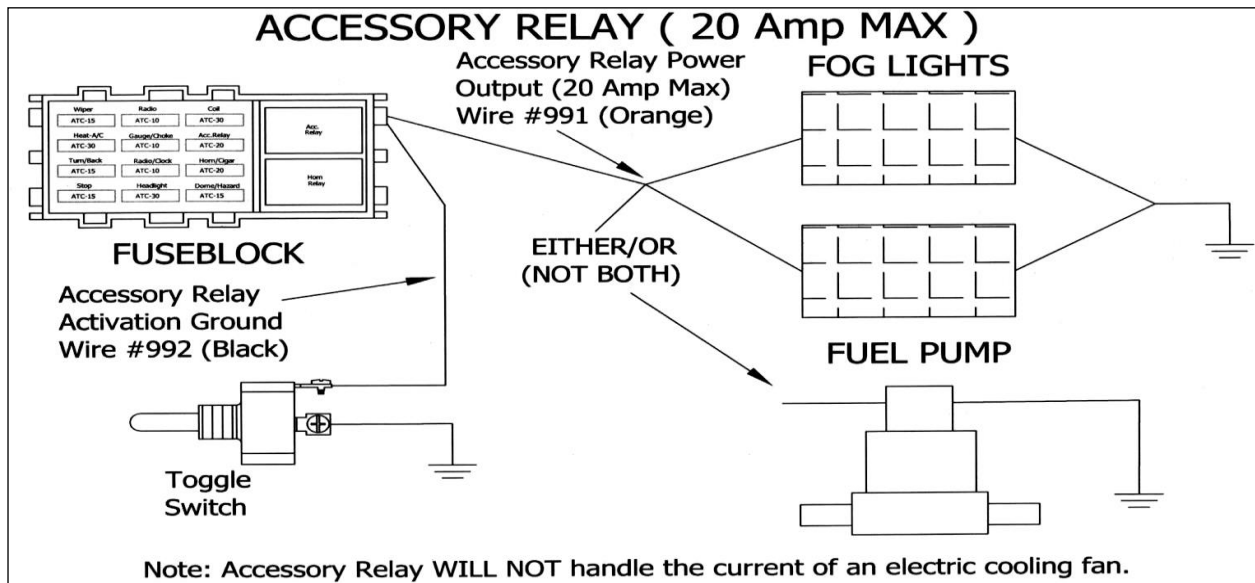

Figure 7-45 Accessory Relay Diagram
- 7.18.4** The final Accessory component in this Ford Truck chassis harness is a 20amp accessory relay output. The relay is preinstalled in the fuse block, powered, and fused. It ONLY requires a ground to be activated. **See Figure 7-45.**